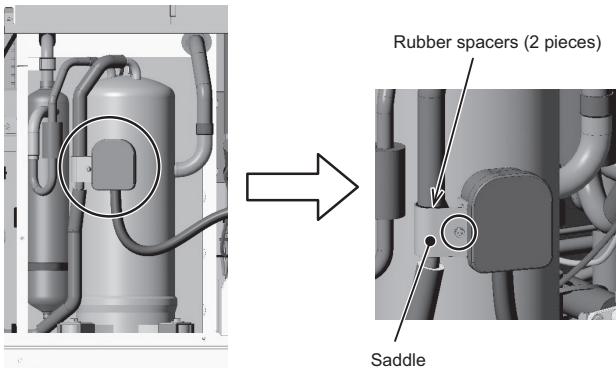

Figure 5
- (5) Remove the saddle and the rubber spacers from the compressor. (1 screw, Figure 5) (applicable to EP only)